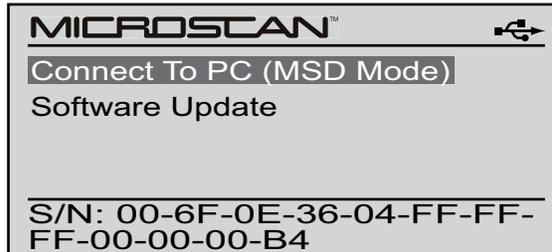

Figure 2-17 Sample connect to PC screen
3. Highlight **Connect to PC** on the MICROSCAN service menu (Figure 2-17).